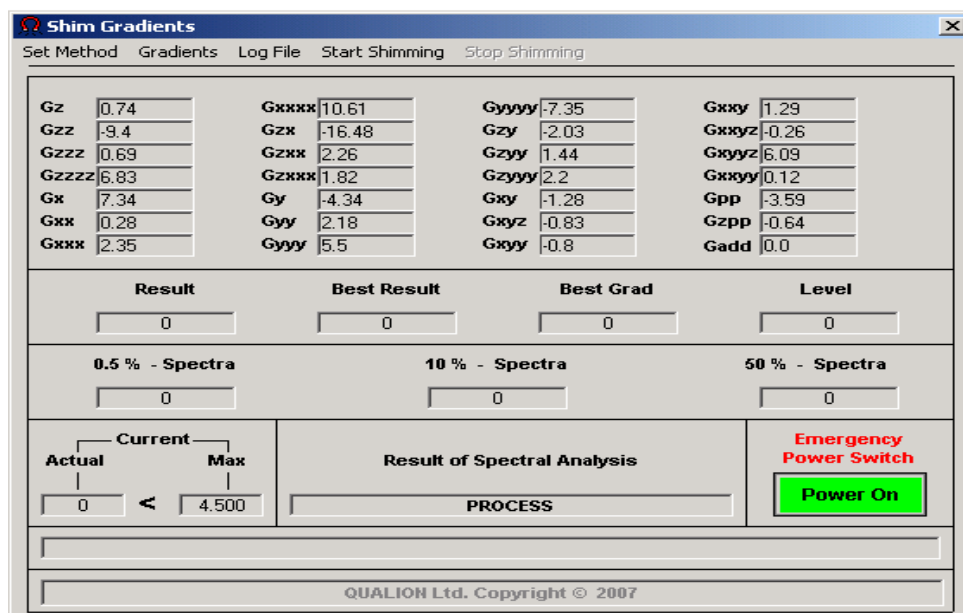

Figure 8: Shim Gradient Display
The Shim Control Unit controls the currents to all shim coils. The software displays the present values of parameters entered for each gradient, as shown in Figure 8.
2. Click the Shim Button in the side menu (of the main application) to call the Shim Gradient Window (figure 8). Note that the shim window displays four boxes at the bottom of the window, called Result, Best Result, Best Grad, and Level. The data that appears in these boxes determines how the shim software functions. Also the current value is displayed as actual current and max current according to the definition in the **AcqMgr.ini** file.